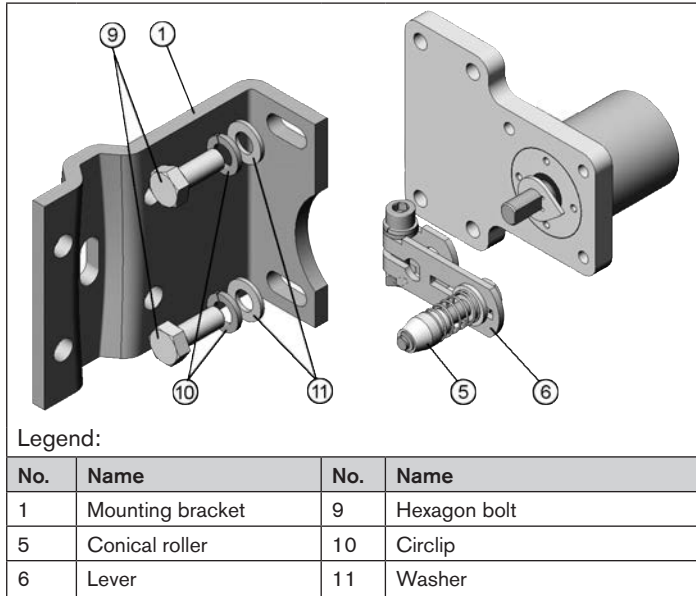

Fig. 28: Attachment to a proportional valve with push drives according to NAMUR
- Attach mounting bracket ① with hexagon bolts ⑨, circlips ⑩ and washers ⑪ to the support plate of the Remote Sensor (refer to “Fig. 28”).